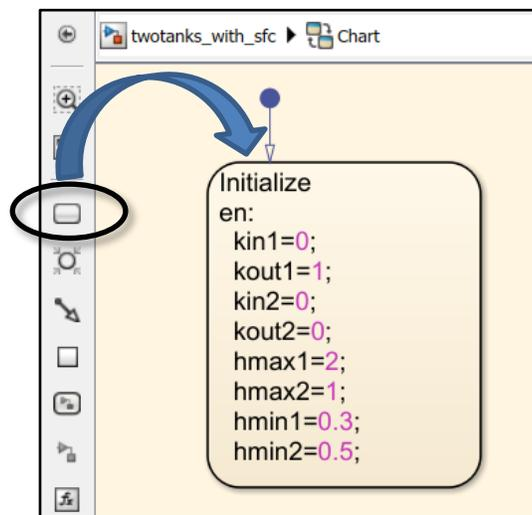

Figure 22. Include a state block into the chart.
- a) Open the Chart editor (double-click on the chart icon) and drag-drop a [**State**] block (rounded box icon) from the selection list on the left edge of the editor) into the chart to contain the initialization actions (see Figure 22).
- c) Resize the block and enter the action lines shown in Figure 22.